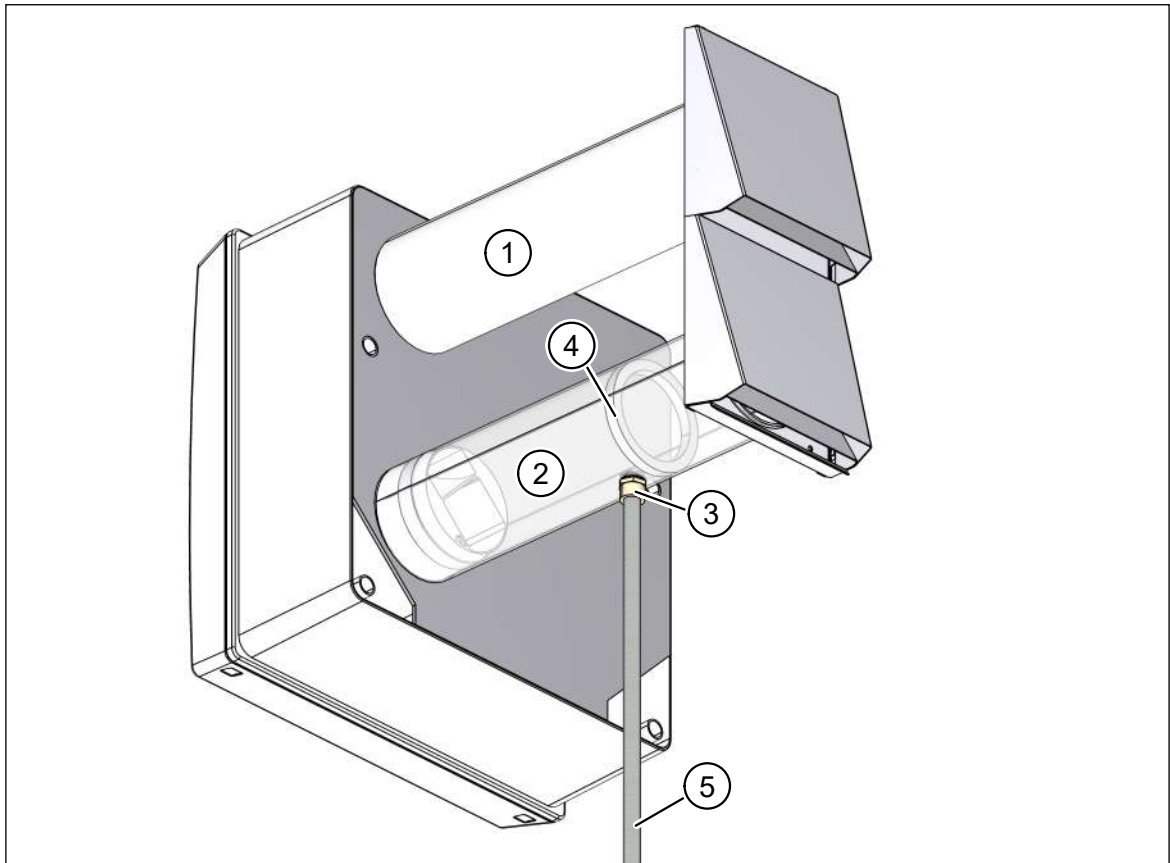

Fig. 20: Condensate drain on the exhaust air pipe
- Outdoor air pipe, DN 100, 0.5 m (item 1 in Fig. 20)
- Exhaust air pipe, DN 100, 0.5 m (item 2 in Fig. 20), with 1/2" male thread connection (item 3 in Fig. 20) and barrier (item 4 in Fig. 20) for retaining the condensate.
- In cold regions, protect the condensate drain pipe (item 5 in Fig. 20) against frost, e.g. by running it behind the facade insulation.